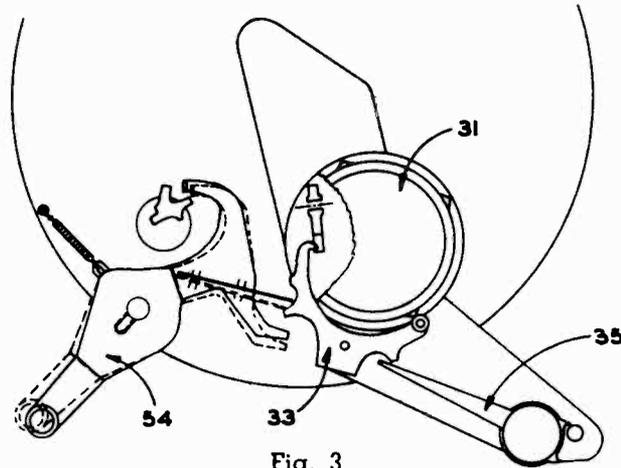

Fig. 3
When the control knob is moved to the extreme START-REJECT position, the hair spring of the Reject Trip Lever Arm (54) actuates the Velocity Trip and Arm Assembly, putting the change mechanism in cycle. See Fig. 3.
The upturned end of the Pickup Arm Pivot Shaft Bracket (Fig. 3) prevents the Pickup Arm from falling off the Pickup Arm Rest. There should be  $\frac{1}{64}$ " clearance between the tongue of the Pickup Arm Raising Disc (36) and the bottom of the groove